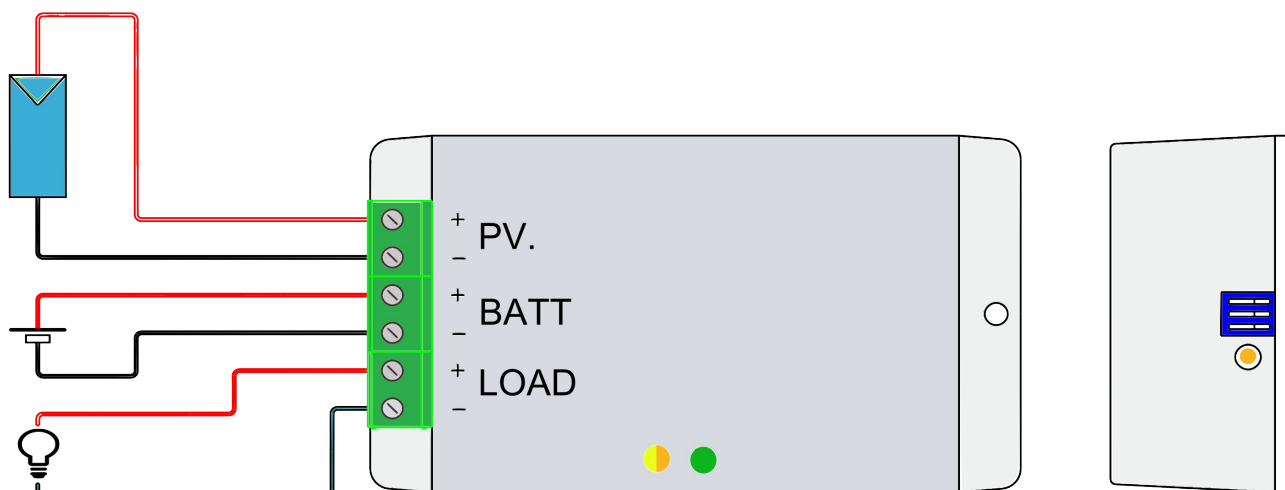

Fig. 2 Connection scheme
- 4 ) Make the electrical connections as shown in Fig. 2,